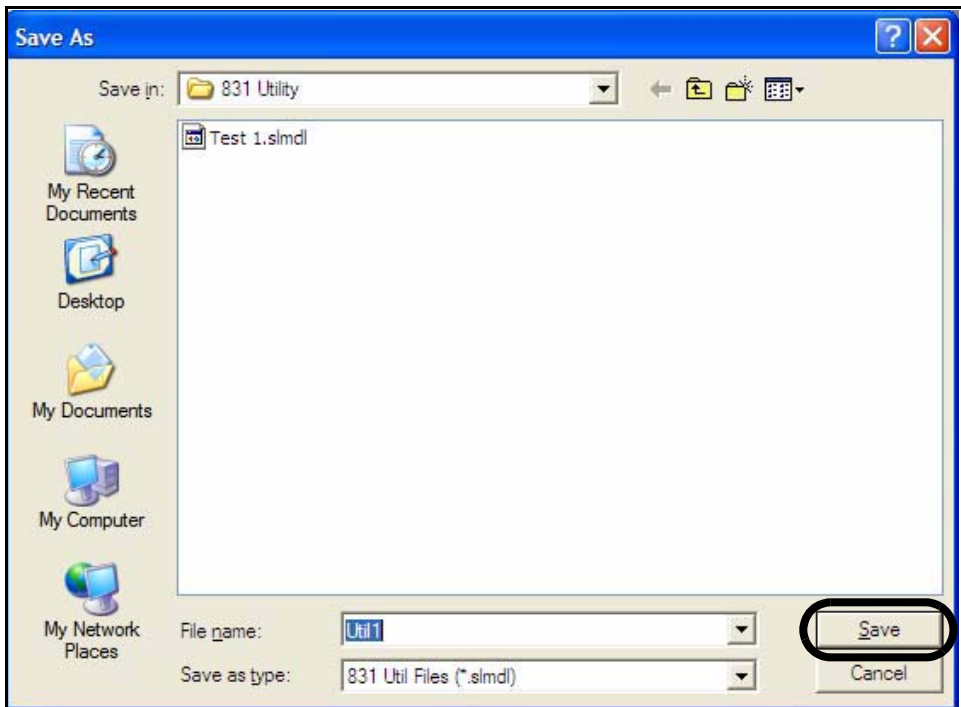

FIGURE 4-18 Save As Dialog Box
This will open the Save As dialog box shown in FIGURE 4-18.
Step 3 Use the down arrow key in the “Save in:” window at the upper left to identify the folder into which to save the file, type a file name into the “File name” field and left click **Save** as shown in FIGURE 4-18.